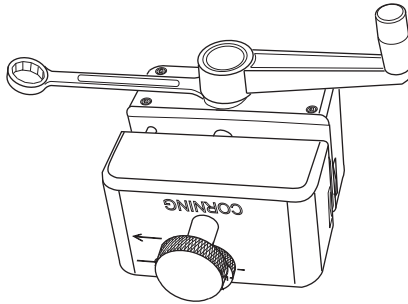

Figure 21
9.2 The handle must be removed from the tool before it is placed in its storage case. Use the 3/8-in wrench provided with the tool to hold the tool’s drive shaft while loosening the handle (Figure 21).